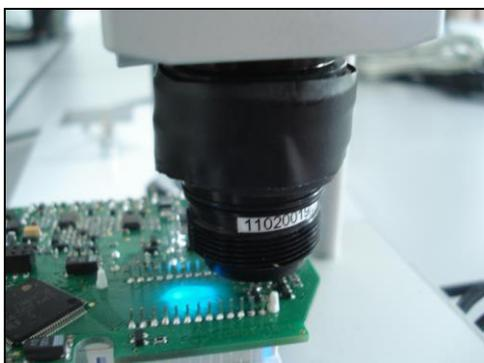

Fig. 3: Lens arrangement on PI
2. Take the second lens and turn it 180°. Connect both optics using a tape or similar (fig. 3).